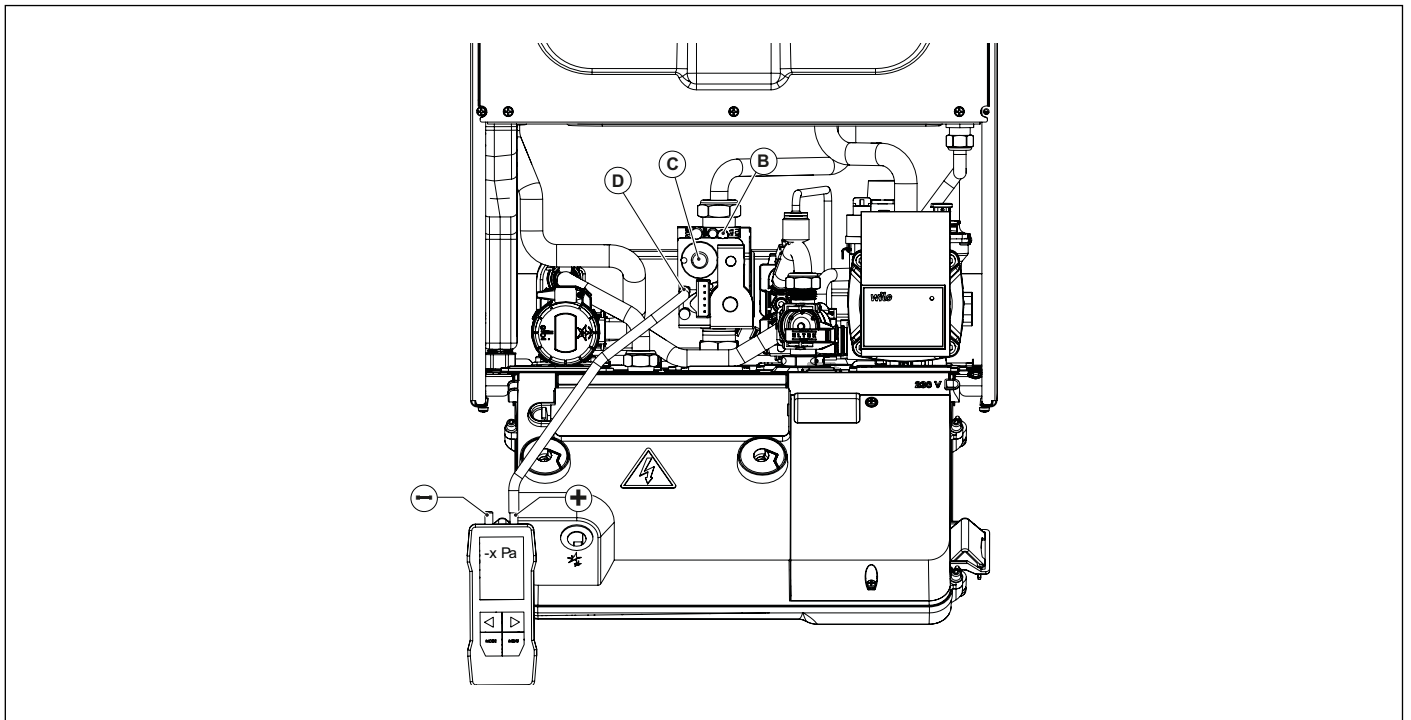

Fig. 46 Offset pressure adjustment
- Open the screw of the offset pressure pick-up point **D** and connect it to the positive input (\*) of the differential pressure gauge (see Fig. 46 Offset pressure adjustment).